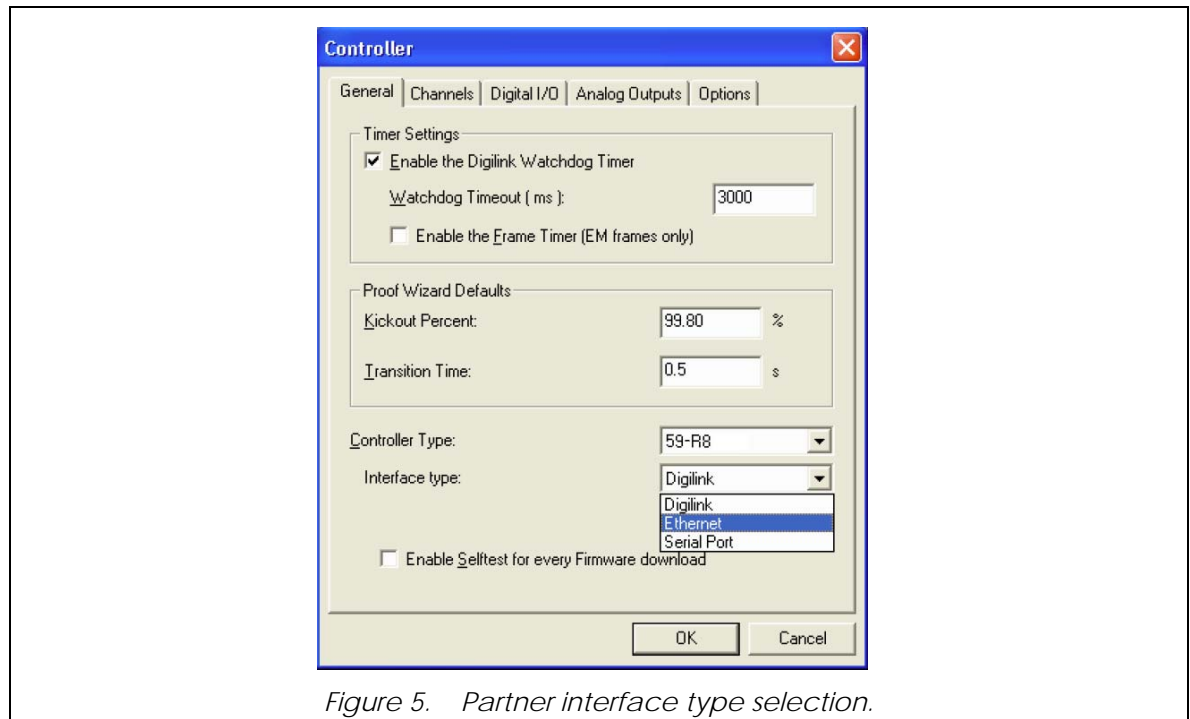

Figure 5. Partner interface type selection.
- vi. Select **Ethernet** as the Interface type (Figure 5); a third box appears for the MAC address.